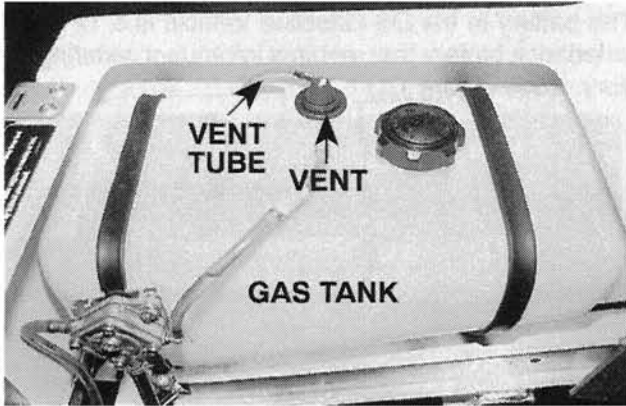

Figure 16
• IF THE VEHICLE HAS AN ALL WEATHER ENCLOSURE INSTALLED, THE GAS TANK MUST BE PROPERLY VENTED AS SHOWN IN FIGURE 16. Be sure to clean up any spilled gasoline before operating the vehicle.